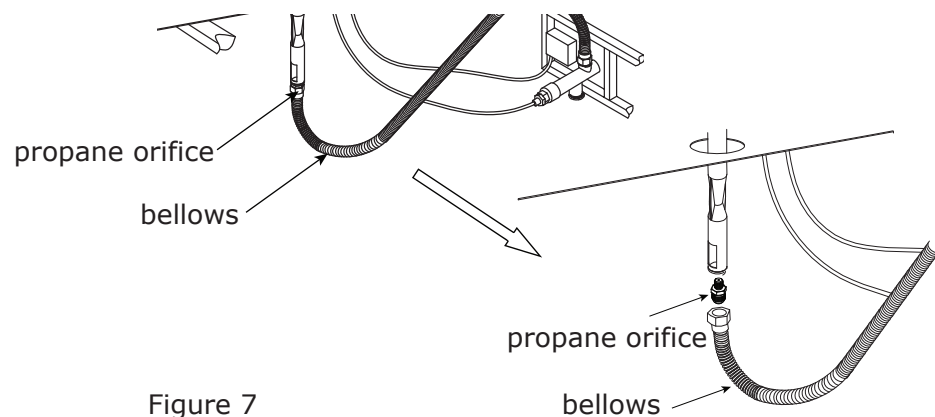

Figure 7
2. Unscrew and disconnect the propane orifice from the bellows (see Figure 7). Propane orifice (2.21 mm diameter size) is painted with red mark.